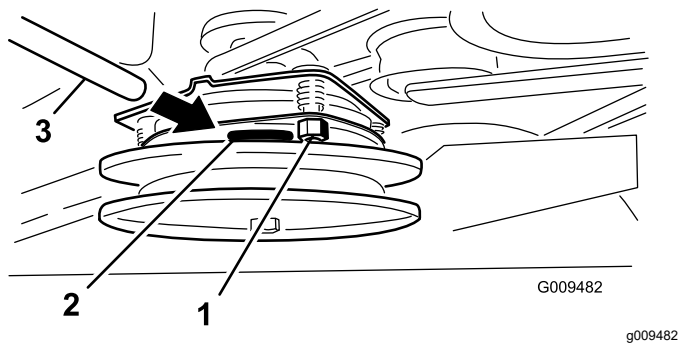

Figure 58
5. Tighten the locknuts until there is slight binding on the feeler gauge but it can be moved easily within the air gap (Figure 58).